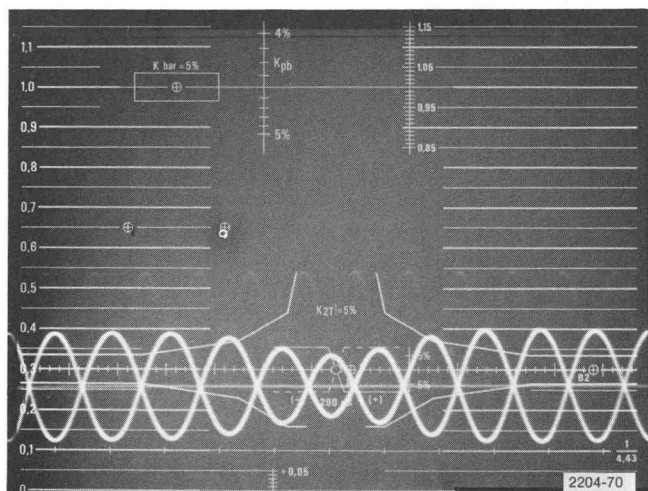

Fig. 6-23. Chrominance/Luminance timing.
e. Change the waveform monitor sweep to $0.1 \mu\text{s}/\text{div}$ (X50 mag). Reposition so that the exact center of the red-blue transition is at graticule center. See Fig. 6-23.